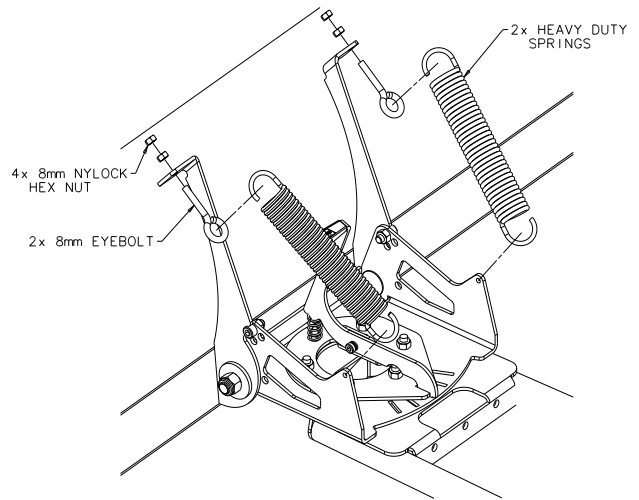

Figure 4 Assemble Plow Springs
- Assemble the plow springs as shown in figure 4. Slide a 8mm dia eyebolt up through the small hole located on the center bent flange on the plow blade. Terminate the eyebolt with a 8mm dia nut. Hook the heavy-duty plow spring onto the rear of the side flange of the plow base, and to the eyelet of the eyebolt. Tighten the 8mm nut until there is tension on the spring (i.e.; it is difficult to remove the spring from the eyebolt). Once the desired tension is determined, terminate the eyebolt with a second 8mm dia nut and tighten it against the first 8mm dia nut. If installed correctly, the nuts should not be able to rotate off the end of the eyebolt.